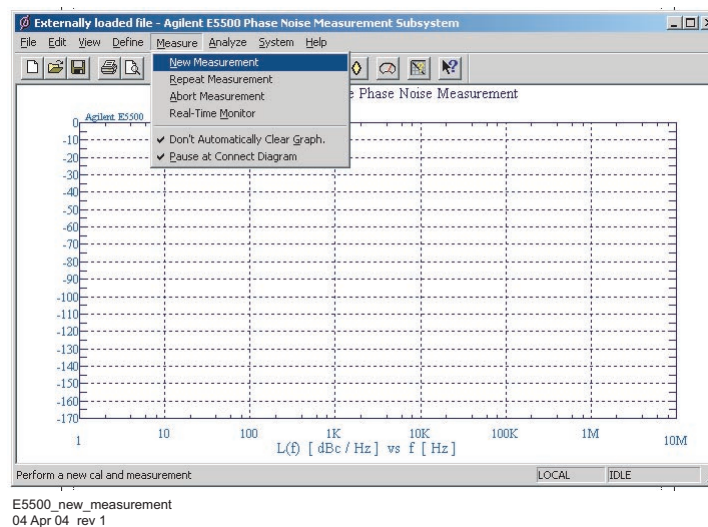

Figure 127 Selecting a new measurement
- 1 From the **Measurement** menu, choose **New Measurement**. See Figure 127.